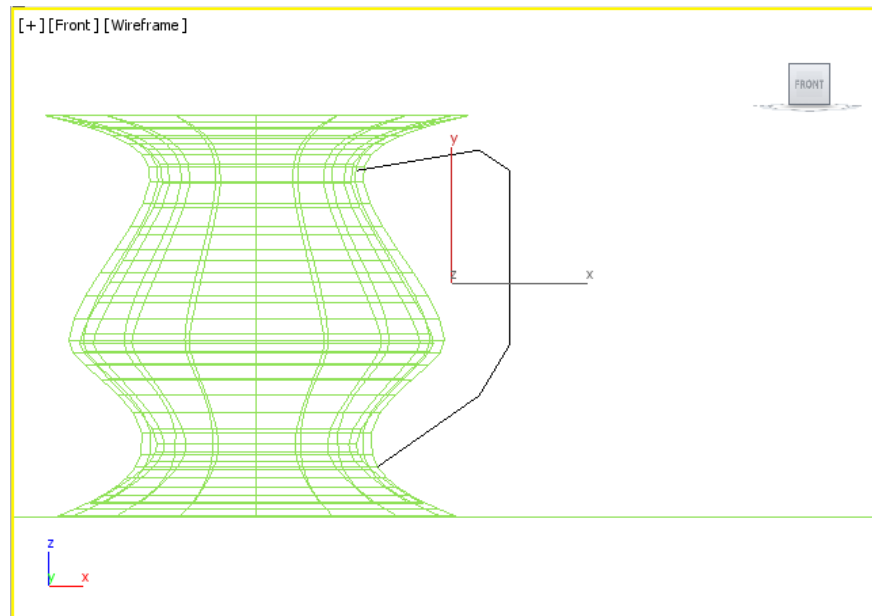

Figure 5-17 The curve for the handle of the Jug
4. Similarly, click at other points to form a curve, refer to Figure 5-17. Right-click to exit the **Line** tool; the shape of the handle is created, as shown in Figure 5-17.